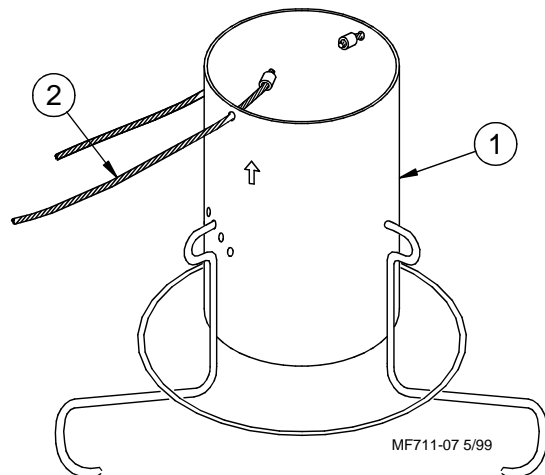

Figure 8.
7. Install two cable assemblies at each feed level tube (if the cable assemblies have not yet been installed). The cable stop should be on the inside of the feed level tube and pulled up tight against the inside. See **Figure 8**.